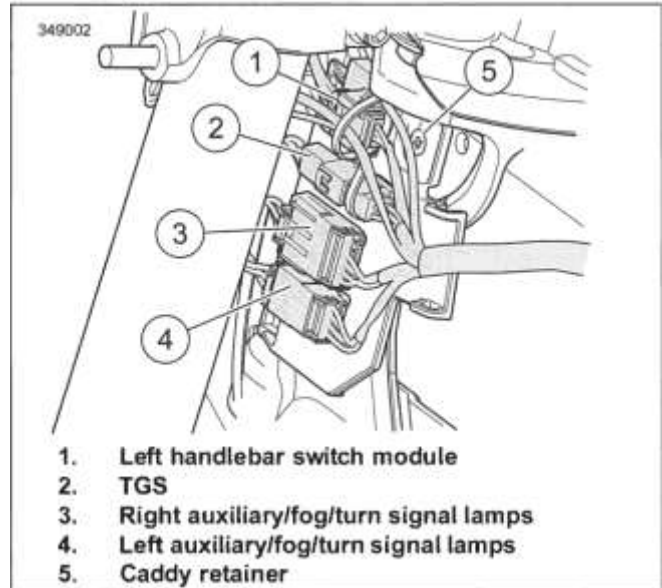

Figure 8-54. Left Side Connectors: Road King Models
- c. See Figure 8-54. Pull harnesses up through openings in lower fork bracket.